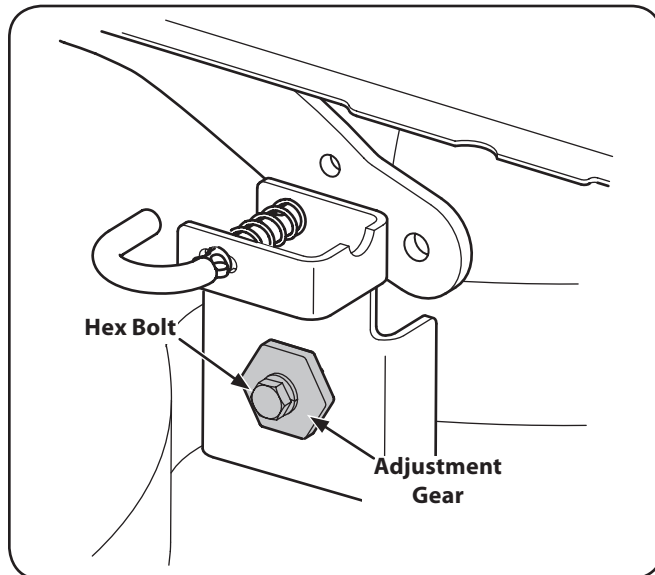

Figure 6-6
3. Loosen, but do NOT remove, the hex bolt on the left deck hanger bracket. See Fig. 6-6.
4. Using a wrench, raise or lower the left side of the deck by turning the adjustment gear. See Fig. 6-6.